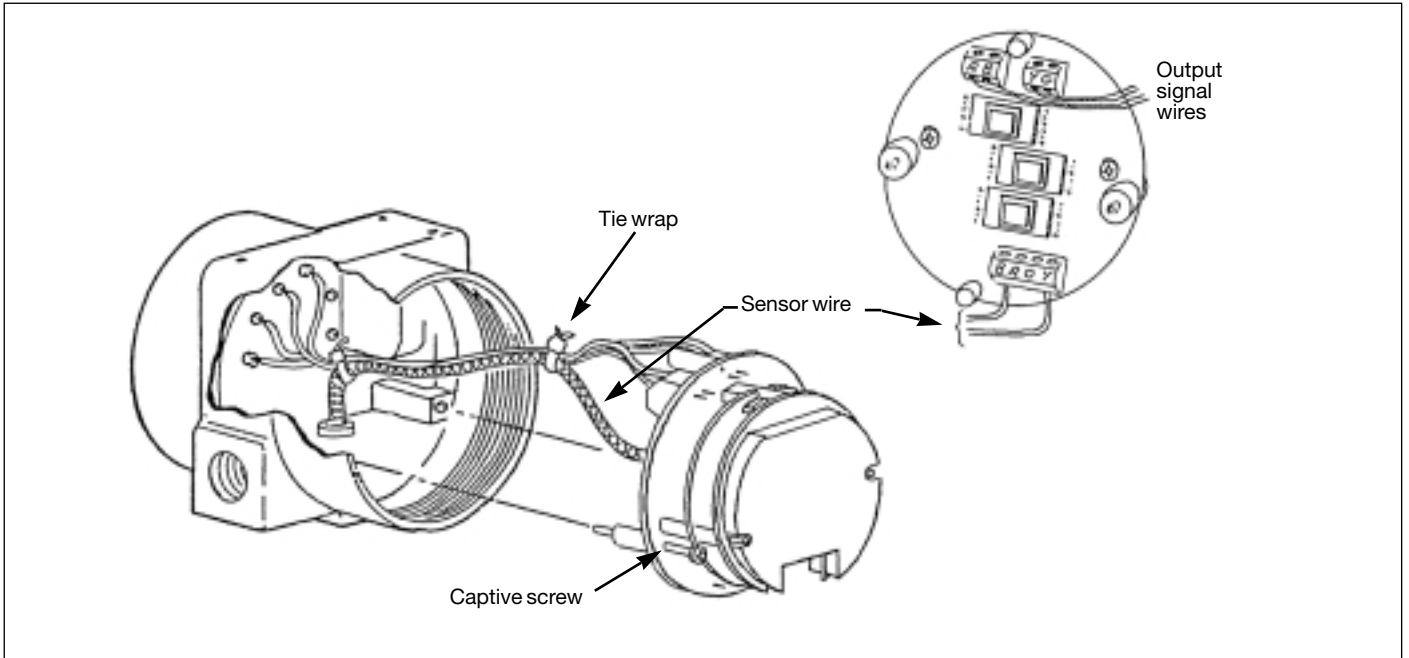

Figure 17: Electronic Module Connections - Standard Temperature Range (Integral Mount)
- Pull the electronic module out of the housing far enough to be able to disconnect the brown and yellow sensor leads from the terminal block on the back of the electronic module. Disconnect the four output signal leads (red [+], and blue [-], and yellow and green) at the two terminal blocks on the electronic module. See Figure 17.
- Refer to Figure 17. Connect the brown and yellow sensor wires to the color coded terminal block on the back of the electronic module.